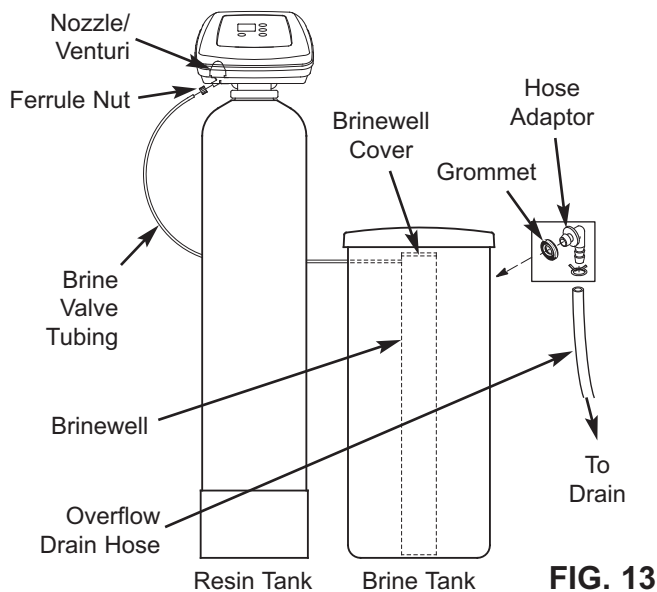

FIG. 13
- a. Insert the rubber grommet into the 3/4" diameter hole in the salt storage tank sidewall (See Figure 13).
- b. Connect the end of this tube to the nozzle/venturi assembly, as shown in Figure 13, using a ferrule nut (provided). Tighten the nut by hand, then an additional 1/4 turn with pliers.